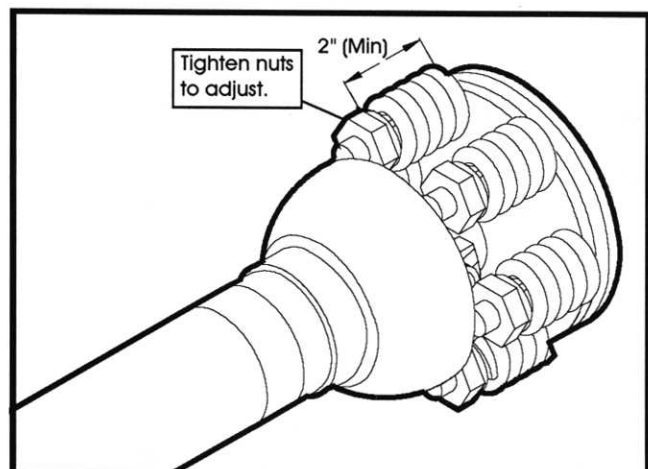

FIGURE 15
1. Refer to Figure 15. Adjustment is achieved by tightening nuts as shown. Each nut should be tightened the same amount - about 1/4 turn at a time.